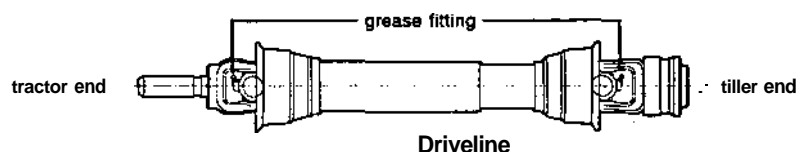

Fig. 27
- 1 Driveline Universal Joints - Apply grease to each fitting using grease gun (Fig. 27).